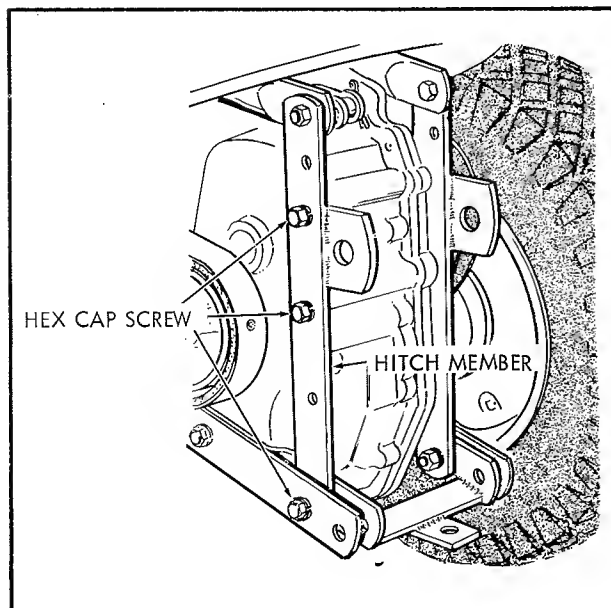

Fig. 1
1. Remove 3 hex cap screws from left side of tractor as shown in figure 1.